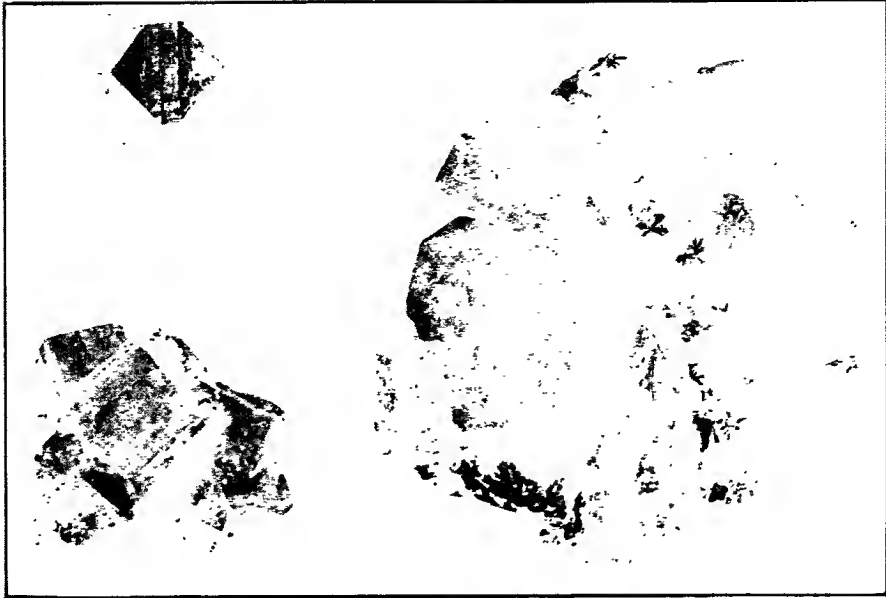

Figure 252. Apophyllite, West Paterson, New Jersey
**Apophyllite** is a hydrous silicate of calcium and potassium, so much like the zeolites in many ways that some writers include it in that group. Its chief difference, from a chemical standpoint, is that it contains no aluminum, which is one of the essential ingredients of all true zeolites. Its *hardness* is 4.5 to 5; *specific gravity*: about 2.35. Its *crystals* are tetragonal and vary much in habit, though specimens from any one locality usually have the same form. Those from Mexico, the Harz Mountains and some other prominent localities are like figure 40. Looking at the Lake Superior crystals, however, we see that while showing the same faces, they also have the base, *c*, present and highly developed, thus producing tabular crystals. Crystals from Paterson, New Jersey, however, have the prism and the base about equally developed, thus giving the appearance of almost cubical crystals, figure 252. The base always shows a beautiful pearly *luster*, while the other faces are vitreous. The crystals are often colorless and transparent, sometimes white, rarely a delicate pink.